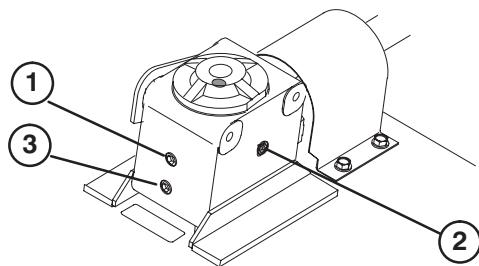

Figure 6
2. Remove check plug from side of gear box and make sure lubricant is up to bottom of hole (Fig. 6). If level of lubricant is low, remove fill plug on end of gear case and add enough lubricant to bring it up to bottom of hole in side.